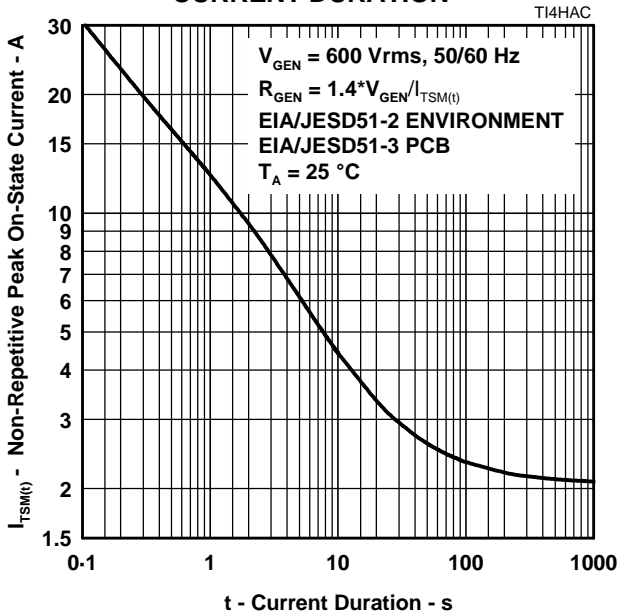

Figure 8.
5. EIA/JESD51-2 environment and EIA/JESD51-3 PCB with standard footprint dimensions connected with 5 A rated printed wiring track widths. See Figure 8 for the current ratings at other durations. Derate current values at  $-0.61\%/\text{C}$  for ambient temperatures above  $25^\circ\text{C}$
The protector can withstand currents applied for times not exceeding those shown in Figure 8. Currents that exceed these times must be terminated or reduced to avoid protector failure. Fuses, PTC (Positive Temperature Coefficient) resistors and fusible resistors are overcurrent protection devices which can be used to reduce the current flow. Protective fuses may range from a few hundred milliamperes to one ampere. In some cases it may be necessary to add some extra series resistance to prevent the fuse opening during impulse testing. The current versus time characteristic of the overcurrent protector must be below the line shown in Figure 8. In some cases there may be a further time limit imposed by the test standard (e.g. UL 1459 wiring simulator failure).